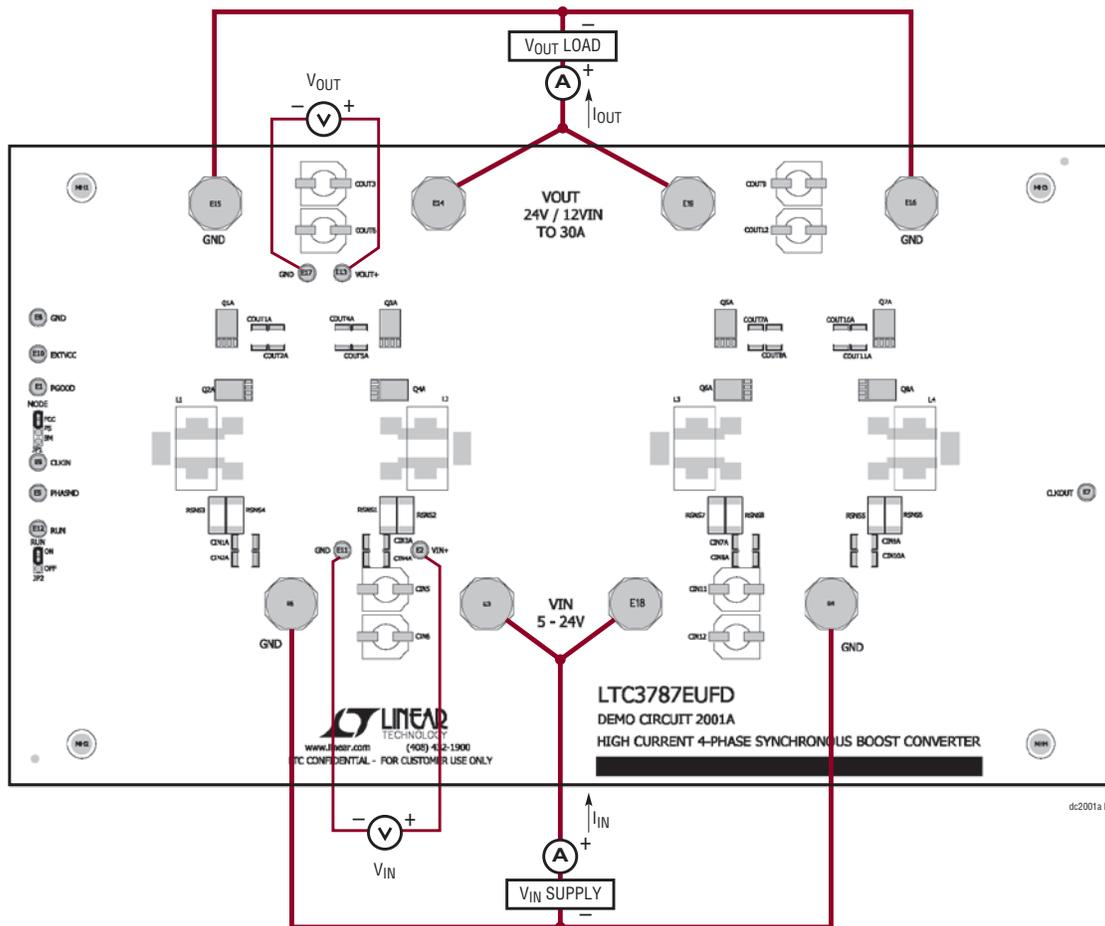

Figure 1. Proper Measurement Equipment Setup
Demonstration circuit 2001A is easy to set up to evaluate the performance of the LTC3787. Refer to Figure 1 for proper measurement equipment setup and follow the procedure below.
2. With all power off, connect the input power supply, load, and meters using heavy duty cables, as shown in Figure 1.